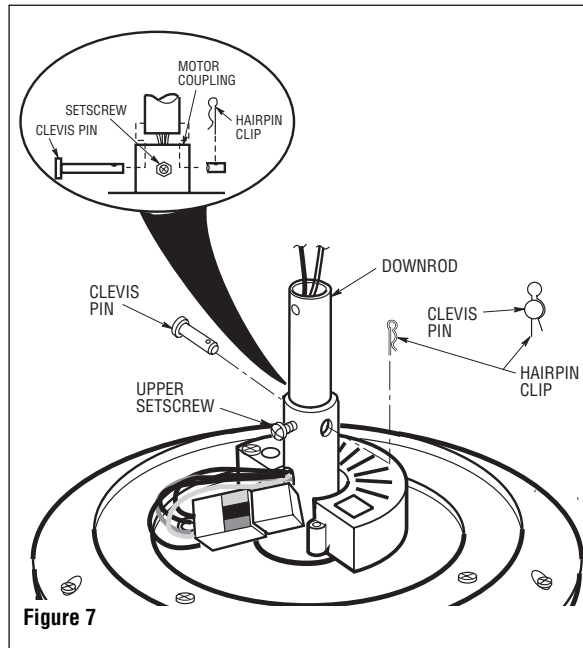

Figure 7
9. Separate, untwist and unkink the two 80" motor leads. Route the motor lead wires through the downrod. Remove the upper setscrew from the motor coupling. Align the clevis pin holes in the downrod with the holes in the motor coupling. Install the clevis pin and secure with the hairpin clip (Figure 7). The clevis pin must go through the holes in the motor coupling and the holes in the downrod. Be sure to push the straight leg of the hairpin clip through the hole near the end of the clevis pin until the curved portion of the hairpin clip snaps around the clevis pin. The hairpin clip must be properly installed to prevent the clevis pin from working loose. Pull on the downrod to make sure the clevis pin is properly installed. Reinstall the upper setscrew in the motor coupling. Check that the lower setscrew is tightened securely (Figure 7).